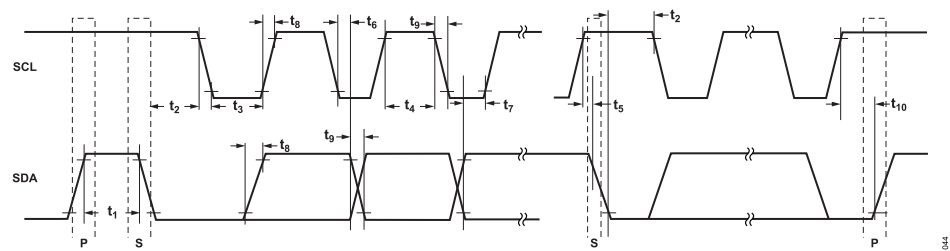

Figure 2. I²C Interface Detailed Timing Diagram
- 1 See Figure 2 for locations of measured values.